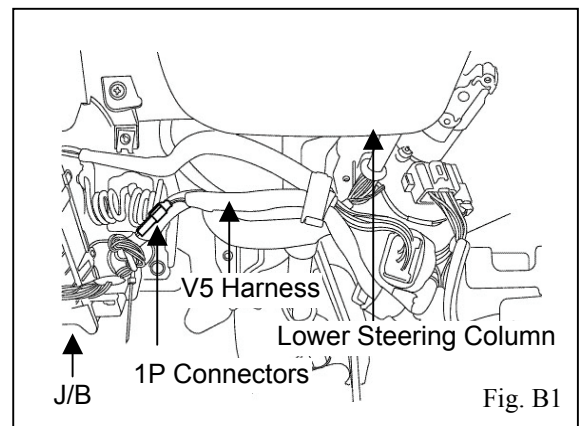

Fig. B1
- 1. Locate and disconnect the 1P connectors, on the V5 harness below the steering column, next to the J/B on the driver's side. (Fig. B1)